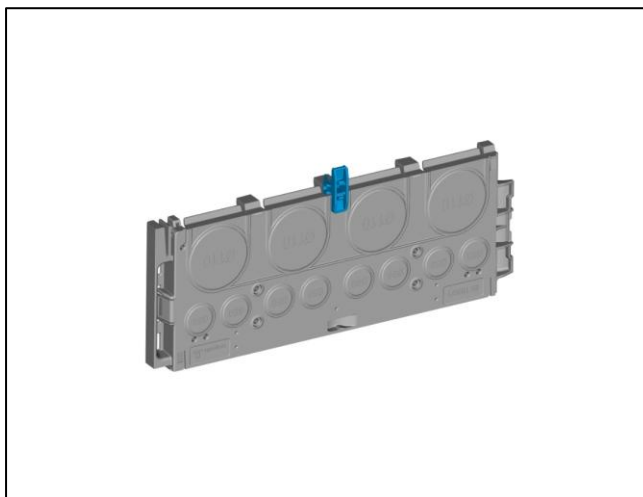
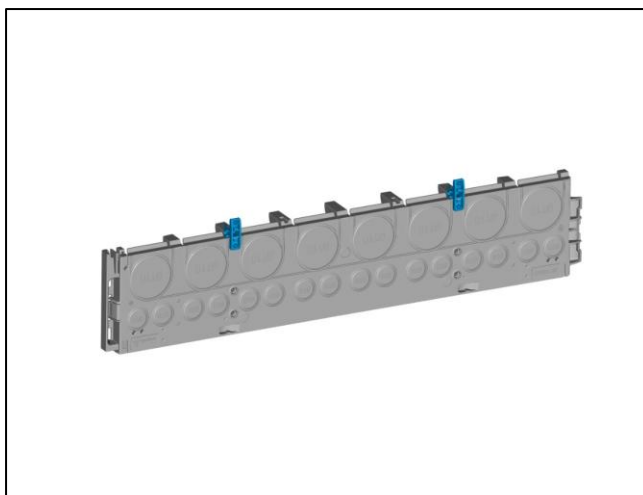

Fig. 15
Fig. 16
- For position and number see (Fig. 15 and Fig. 16)